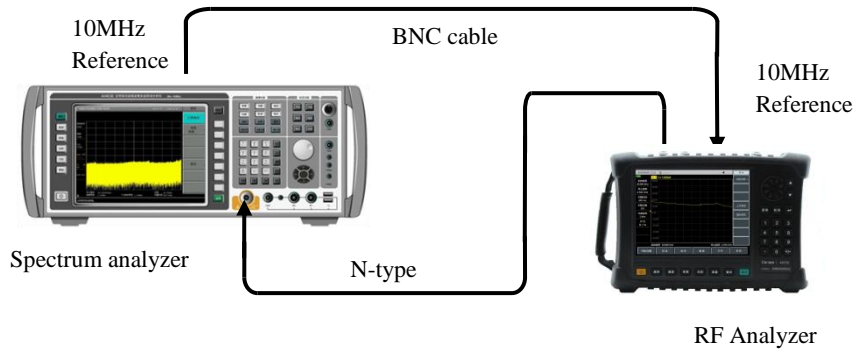

Figure 16-2 Block Diagram of Frequency Resolution Test
- a) Connect the instrument as shown in Figure 16-2. Connect Port 1 of the instrument to the RF input port of the spectrum analyzer, which provides a 10 MHz frequency reference for the instrument. On the instrument, press **【System/Local】** [Frequency Reference Internal External], and select the 10 MHz reference of the instrument as the external reference ;